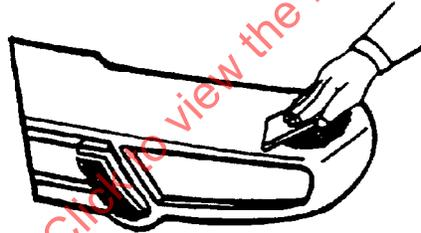

FIGURE 4—APPLICATION OF REPAIR ADHESIVE
**4.4 Repair**—Mix and apply the 2-part (2K) repair material to the outer surface to fill all voids and restore the surface to a level slightly higher than the original contour and allow to cure. (Follow repair material manufacturer's instructions.) (Figure 4)